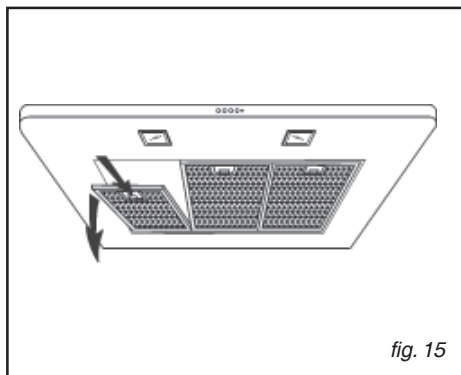

fig. 15
• Removing the grease filters (fig.15)
Remove the grease filters by pushing the catch towards the rear of the hood and turning the filter outwards (fig.15).
Remove the grease filters by pushing the catch towards the rear of the hood and turning the filters outwards (fig. 15).